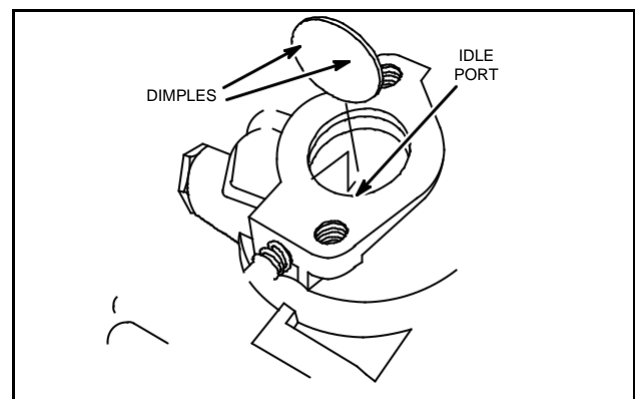

Fig. 39 – Install Throttle Shaft
9. Assemble new seal to throttle shaft and insert into carburetor body, Fig. 39.